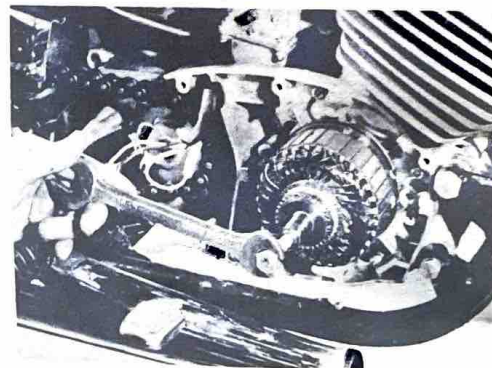

Fig. 4-1-12
9. Pull off the armature with the armature puller bolt or shock puller. (Fig. 4-1-12)